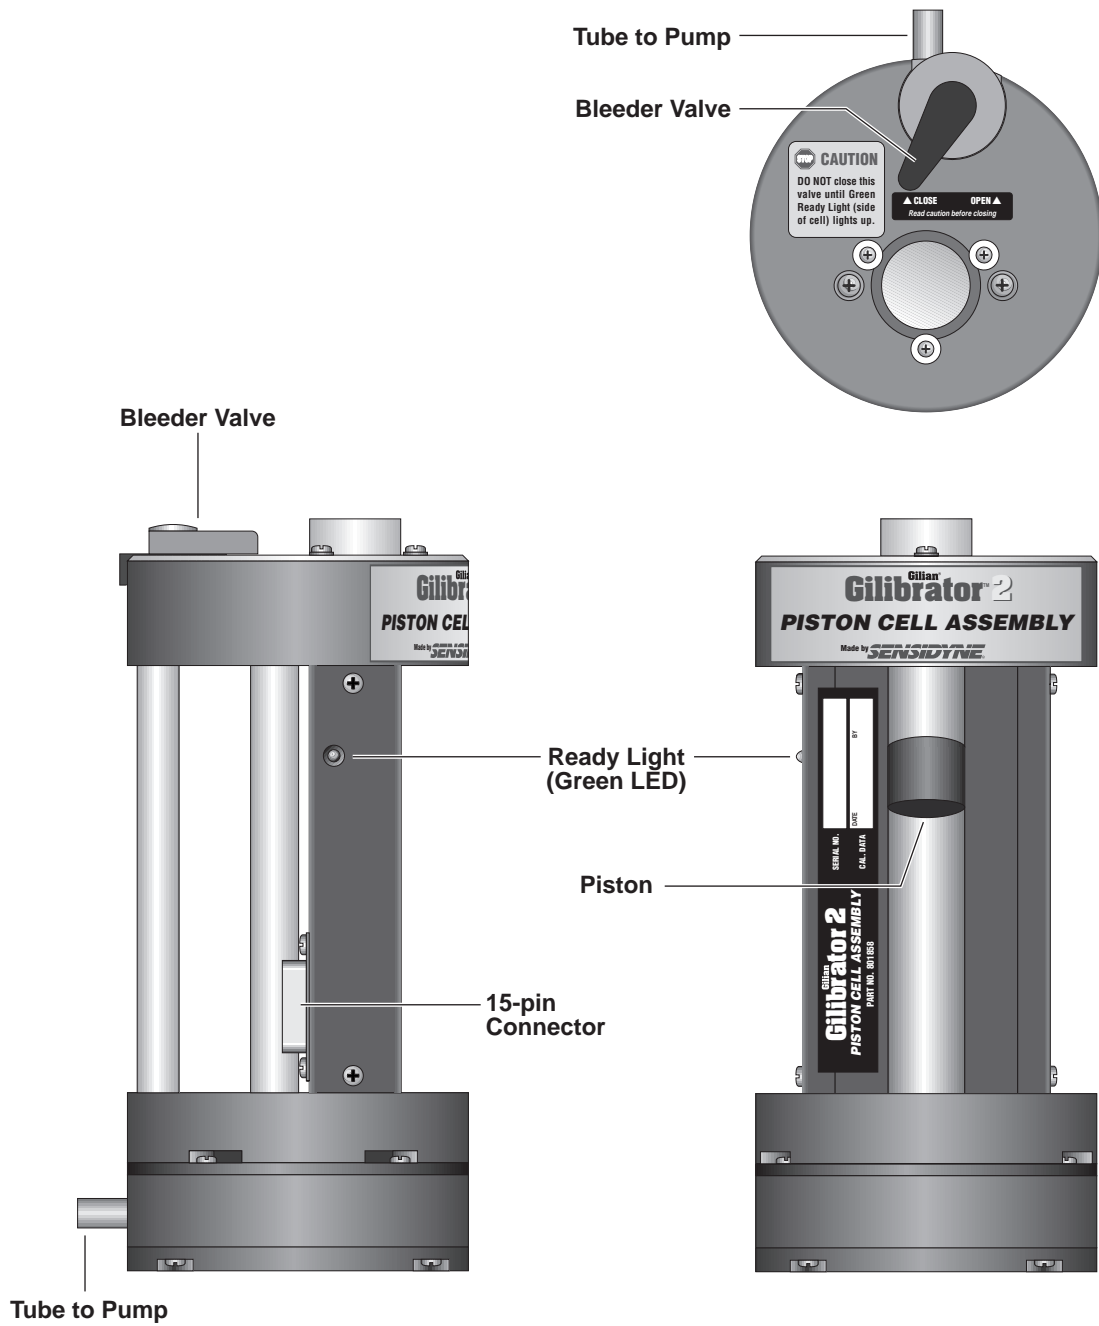
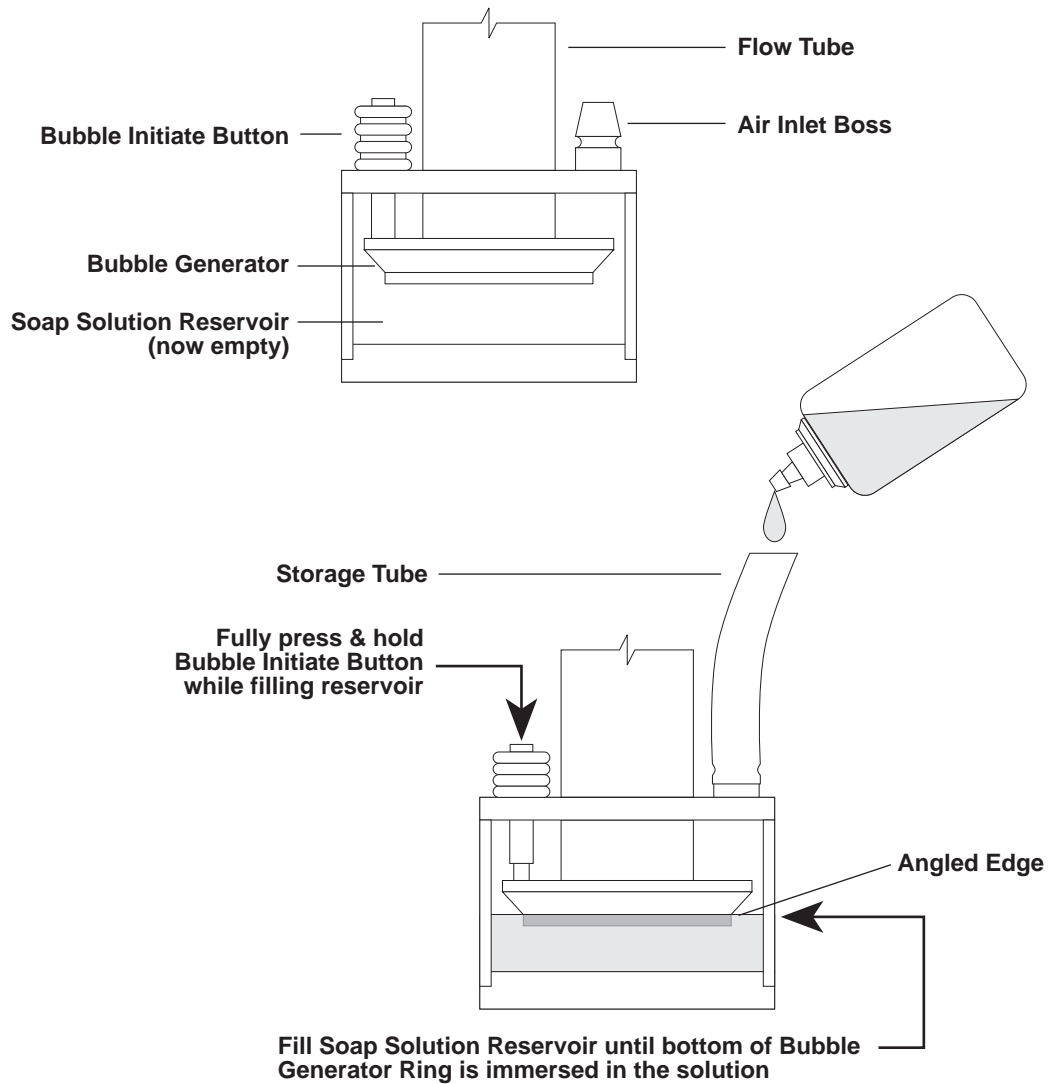

Figure 2.3
Figure 3.4
Secured to the flow tube and secured between the upper and lower portions of the cell assembly, is the Sensor Rail (refer to Figure 2.3). The Sensor Rail includes lower and upper infrared sensors used to time the movement of the piston through the flow cell.
If you are using a Piston Cell Assembly, insert the 15-Pin Interface Plug directly into the Connecting Jack located on the back of the Piston Cell (refer to Figure 2.3). Be sure to properly match up the connectors before engaging.
- 1) Remove the Storage Tubing from the Air Outlet Boss (see Figure 2.3) of the Flow Cell. Fill the dispenser bottle provided with Gilibrator soap solution. Using the rubber Storage Tubing as a funnel, slowly add soap solution from the dispenser (refer to Figure 3.4).